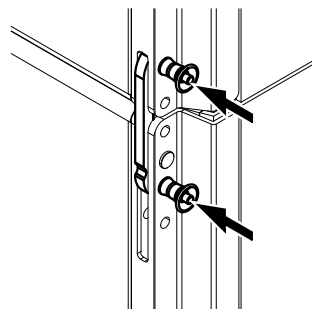

Fig. 2: SUB to SUB, 0° splay
- b. SUB to SUB with 0° splay between the cabinets (⇒ Fig. 2).